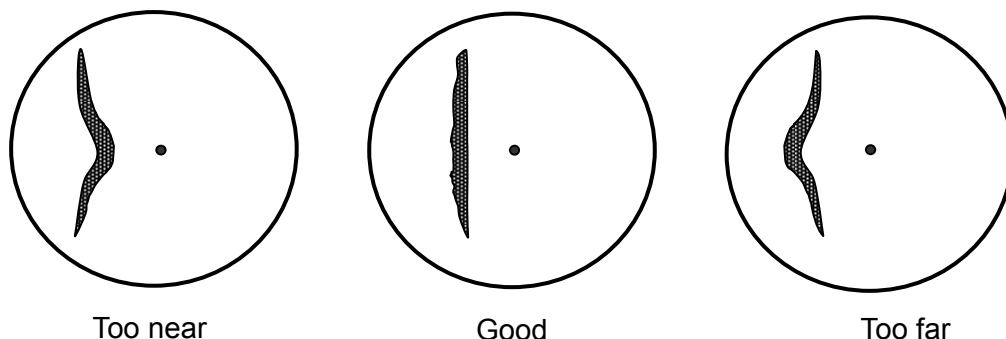

Figure 3.1 Picture display of Trigger Adjustment
- (1) Change the range scale to 0.25 NM by pressing “+” (or “-”) key on the Operation unit.
- (2) Press [MENU] key, select MAINTENANCE=>STARTUP => TX DELAY => VALUE will show the current setting of the input value by highlighting the last digit value by the trackball.
- (3) Roll the trackball up or down to adjust the value to get a straight picture of the straight object in the screen as shown in Figure 3.1.
- (4) Press [ENT] key to save the adjustment result.